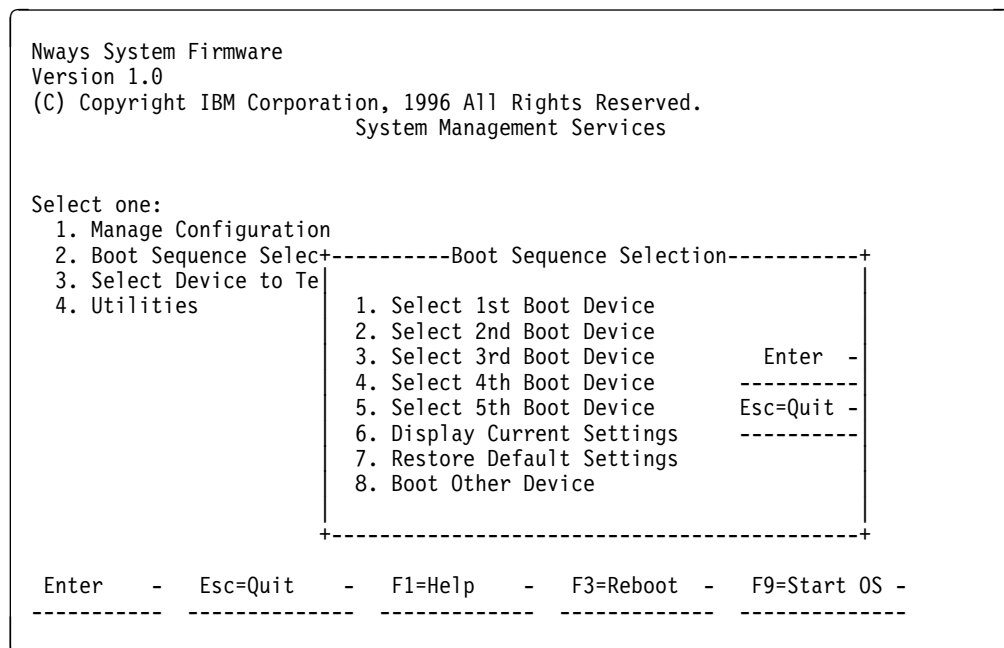

Figure 5-3. Boot Sequence Selection Panel
- 2 The Boot Sequence Selection panel is displayed as shown in Figure 5-3.